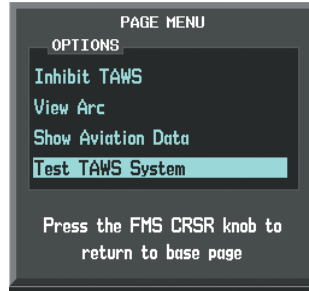

Figure 6-133 TAWS-B Page Menu
- 3) Select 'Test TAWS System' and press the **ENT** Key to confirm the selection. (Figure 6-133)